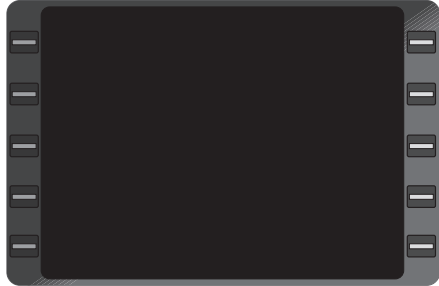

Figure 3-1
1. **ON** Key - DEPRESS (momentarily). The **SELF TEST** Page (Figure 3-1) will be displayed for approximately 30 seconds. During the time the **SELF TEST** message is displayed, the system is performing internal self tests. If the system was turned OFF last by the removal of aircraft power, the system will turn ON automatically when aircraft power is applied.